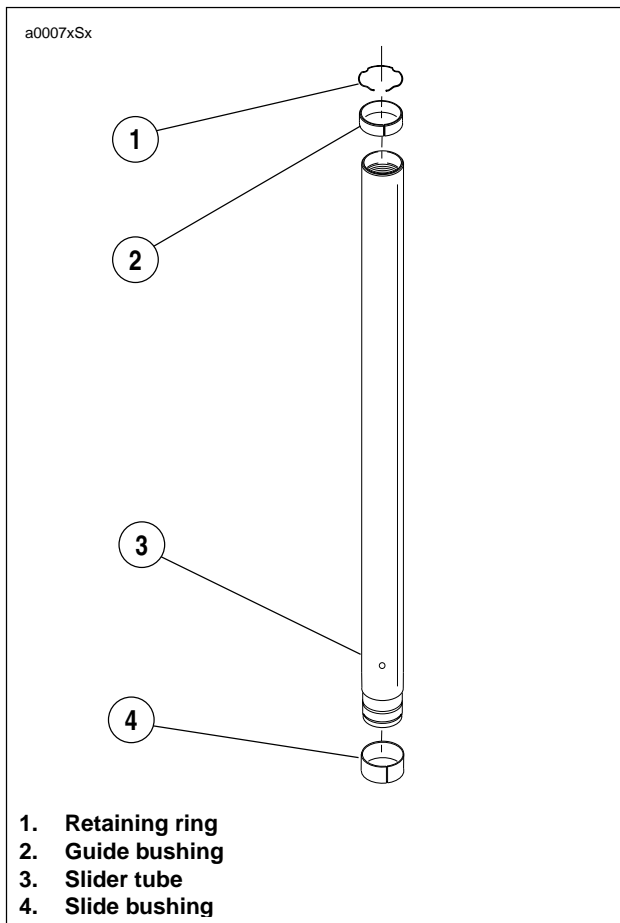

**Figure 2-76. Removing Slide Bushing**
11. See Figure 2-76. Remove the slide bushing by prying the slide bushing at the split.